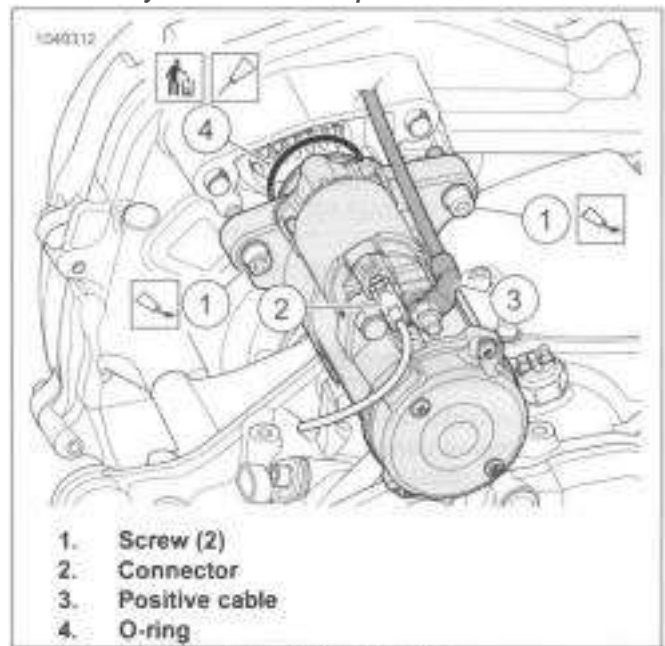

Figure 7-5. Starter
1. See Figure 7-5. Remove positive cable (3).
- a. Disconnect connector (2) from solenoid.
- b. Remove screws (1).
3. Discard O-ring (4).
1. See Figure 7-5. Install new O-ring (4).
- b. Install new O-ring (4).
- a. Apply thread-locker to screws (1).